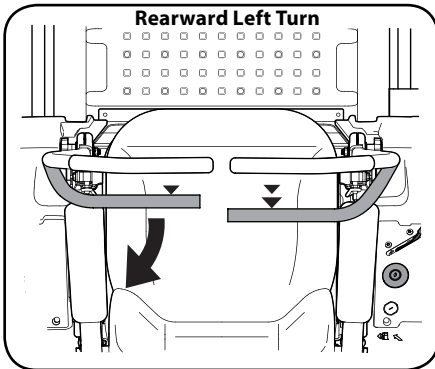

Figure 3-6
1. To turn to the left while traveling in reverse, move the left drive control lever forward of the right lever. See Figure 3-6.